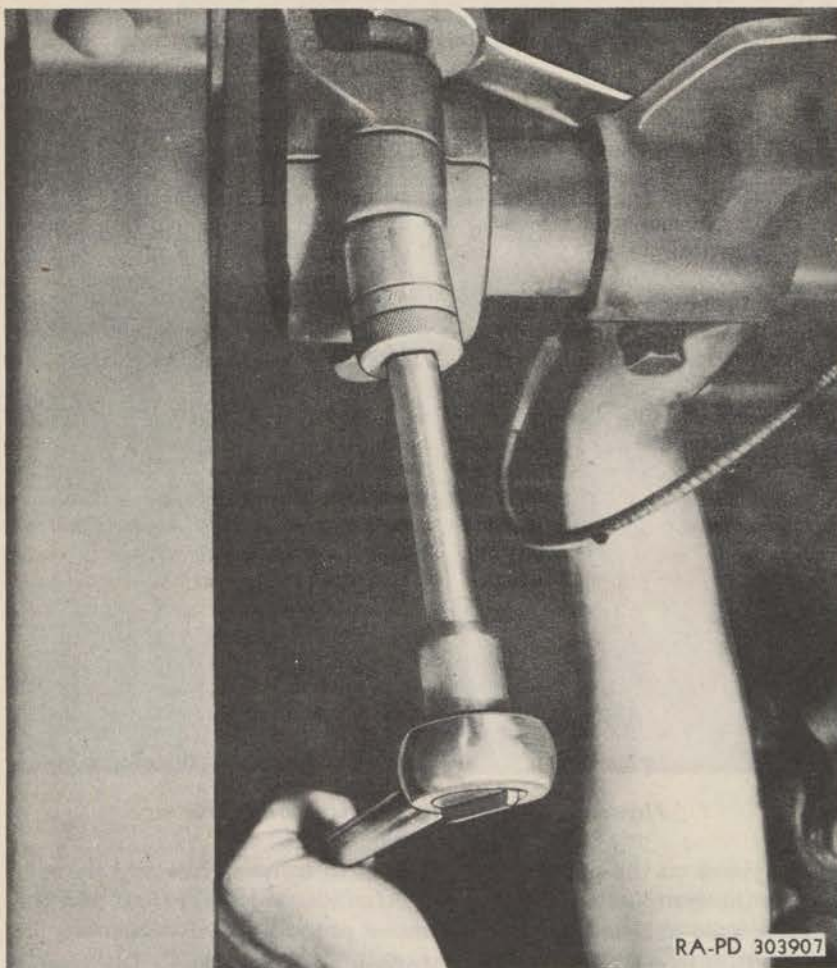

Figure 101—Disconnecting Transfer Front Mounting
j. **Remove Front Mounting Bracket Caps.** Remove the cotter pins, nuts, and bolts holding the cross shaft caps to the brackets, then remove the caps (fig. 101).